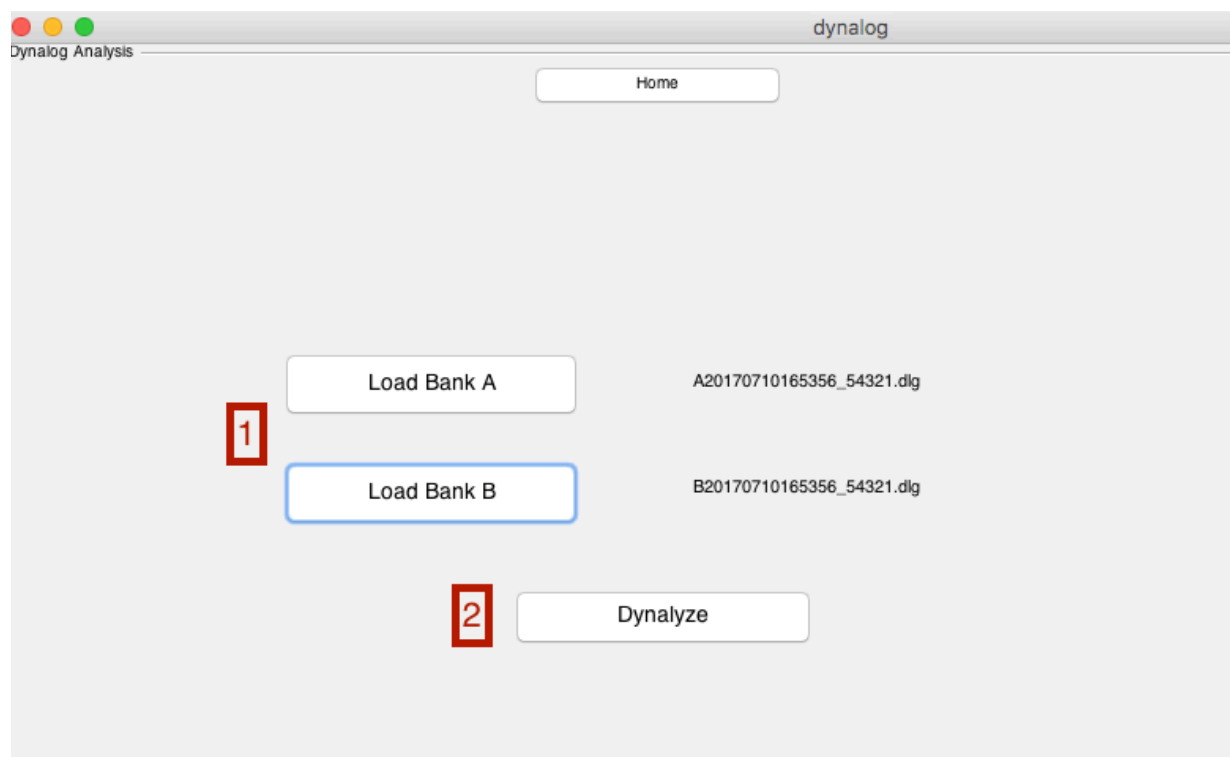

Fig. 11: QALMA Dynalog module (loading files).
1. Load VarianTM dynalog files for bank A and bank B. Two sample files are provided in the 'samples' folder. The user can load 'A20170710165356\_54321.dlg' and 'B20170710165356\_54321.dlg' files to follow the example (Fig. 11).
2. Click 'Dynalyze' (Fig. 11).